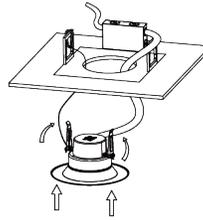

Fig. 5
6. Squeeze the two housing clips so they are in an upright position and then insert luminaire into housing. (Fig. 5)